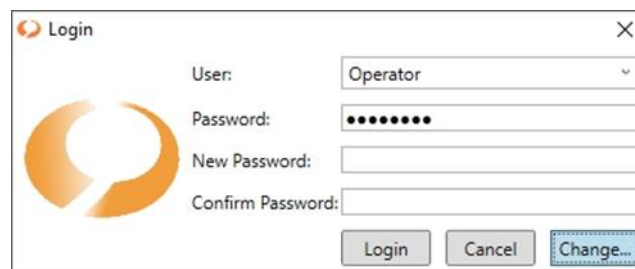

Figure 58: Changing password
- 20.) Use this password and you are allowed to add a new password (Figure 58)